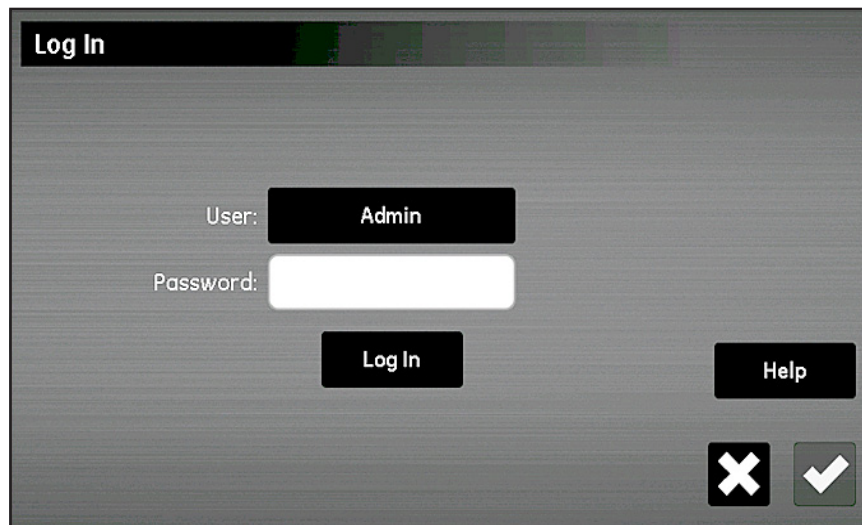

Figure 70: Log In Screen
Only the **Admin** can add, modify, or remove the other user accounts. To log in as the **Admin**, select **Configuration > User Management**. to open a *Log In* screen similar to *Figure 70* below.
1. From the *Configuration Menu* screen (see *Figure 52 on page 59*), tap the **User Management** button to open the *Log In* screen (see *Figure 70 on page 79*).